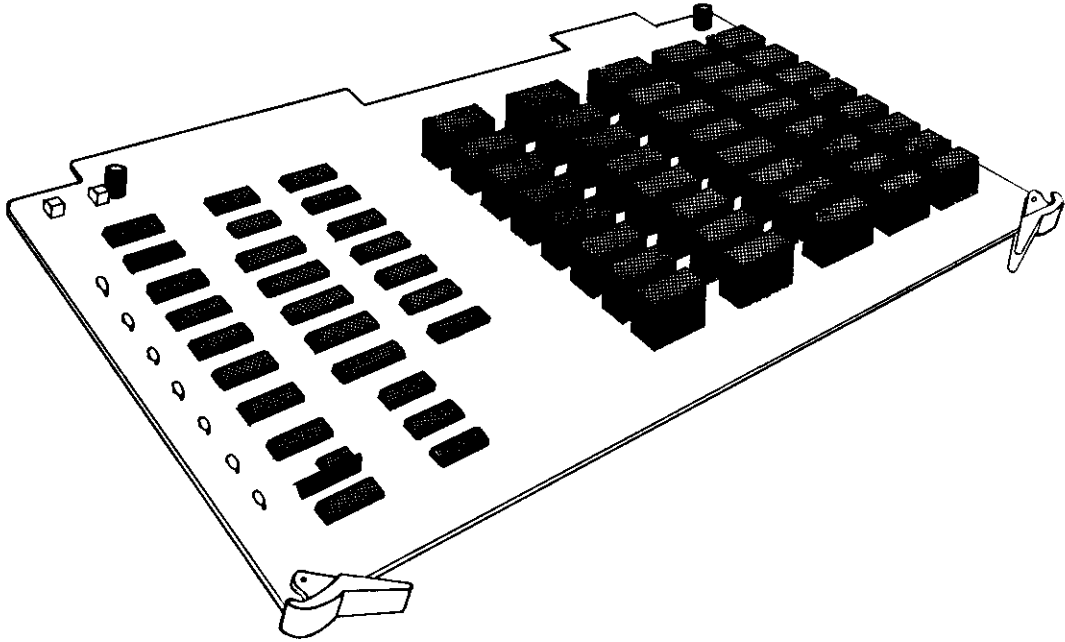

Figure 7-4 RMXU-6A PCB, EK-616
- (c) **RMXU-6A (Matrix Expansion)**, (Figure 7-4) consisting of CO line relay matrix expansion and crosspoint matrix expansion elements for a heavily loaded (greater than three line by four ICM link) system. The RMSU Shorting PCB shorts the relay matrix area on systems where the RMXU-6A is not required.